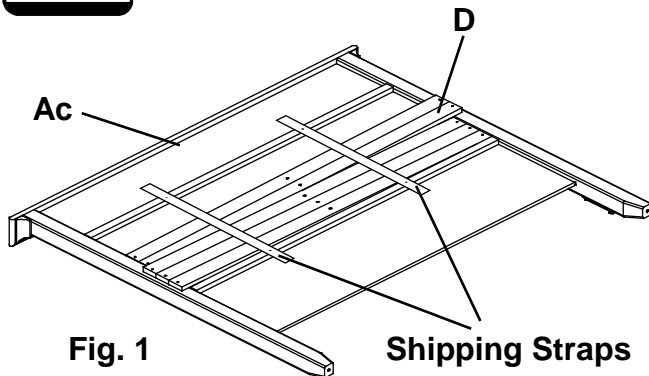

Fig. 1
1. Remove the Slats (D) from the back of the Headboard (Ac) and place them off to the side. See Figures 1 and 1a.